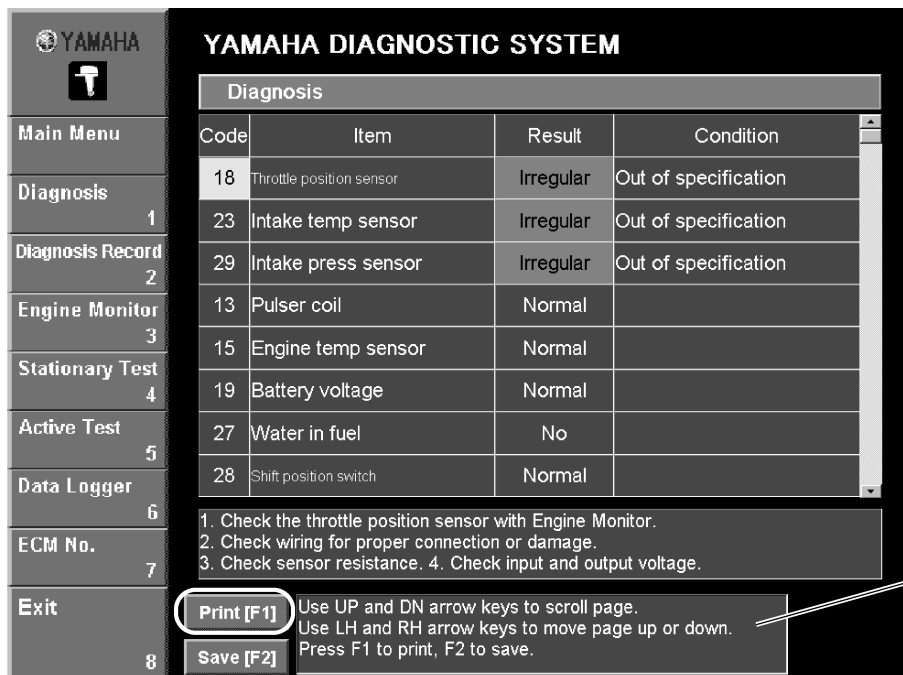

Fig. 11
1. Click the **Print [F1]** button or press the F1 key on your keyboard. The **Print** dialog box is displayed. (Fig. 11)